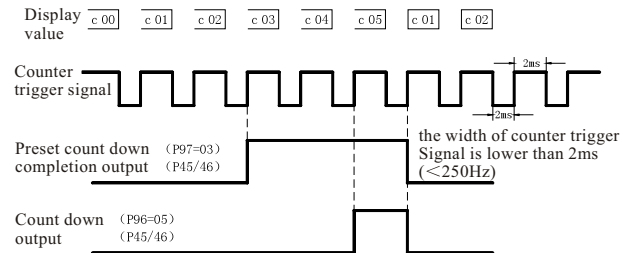

Fig. 6-30 CountDown Completion
- When count value start at c01 and reached the parameter set. The selected multi function output terminal will close. Preliminary count could be used to initiate an external event before the terminal count is reached. Before stop can choose this as output signal let the inverter low move till stop. See Fig. 6-30.